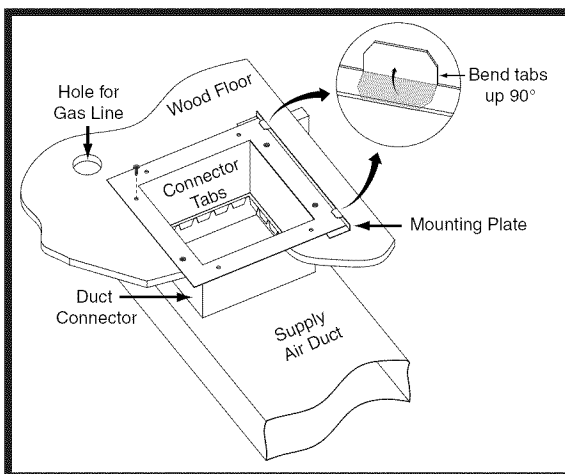

Figure 8. Standard Duct Connector Installed
2. Mark the cut-out area on the supply air duct by tracing around the connector tabs (Figure 8) of the duct connector.
5. Install the mounting plate (Figure 8) under the back side of the duct connector. Align the screw holes in both components.